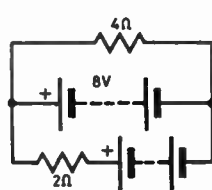

Fig. 8.9. Circuit for Problem 4.
4. Find the current in the 2Ω resistor for the circuit of Fig. 8.9. What current does the 8V battery supply?